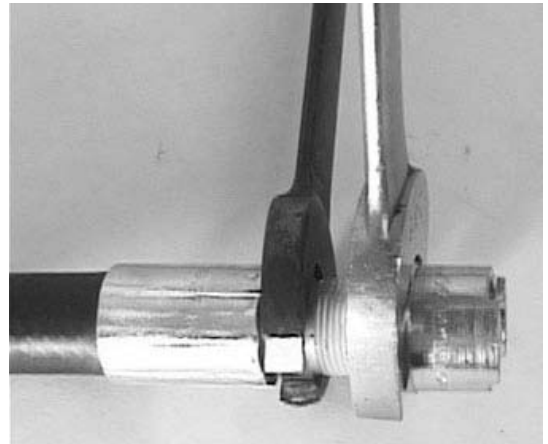

Figure 11-2. Remove Whip Hose from Q.D. Socket
3. Using a 1-3/8-inch open-end wrench to hold the Quick Disconnect (Q.D.) Socket (22) in place, use a 1-1/8-inch open-end wrench to loosen and thread the hose fitting of Whip Hose (20) from the Q.D. Socket. Refer to Figure 11-2.